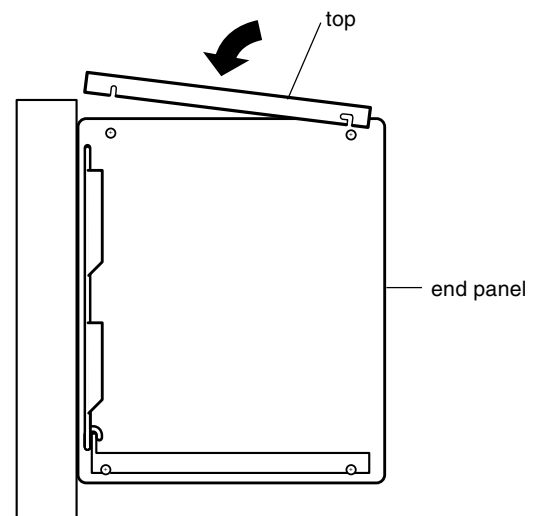

Figure 2
4. Place top unit over end panels, aligning side notches with four (4) #8-32 phillips screws. Drop top over screws, making sure screws are securely engaged in notches. (Figure 2)